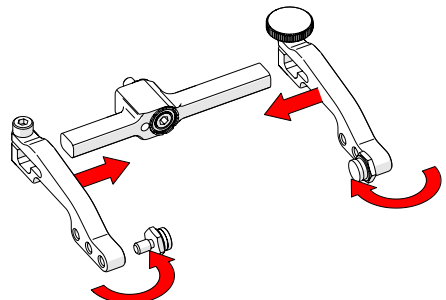

Fig. 140 - Attach arms & move buttons
5. Place the pivot buttons on the inside of the probe holder arms (Fig. 140) using a 3/8 in wrench (Fig. 69).